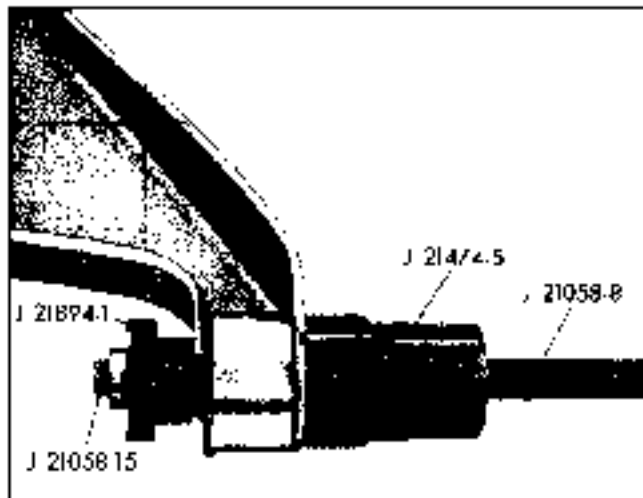

Fig. 3-16 Removing Pontiac Lower Control Arm Front Bushing or Tempest Lower Control Arm Rear Bushing
2. Remove bushing by arranging tools as shown in Fig. 3-16.